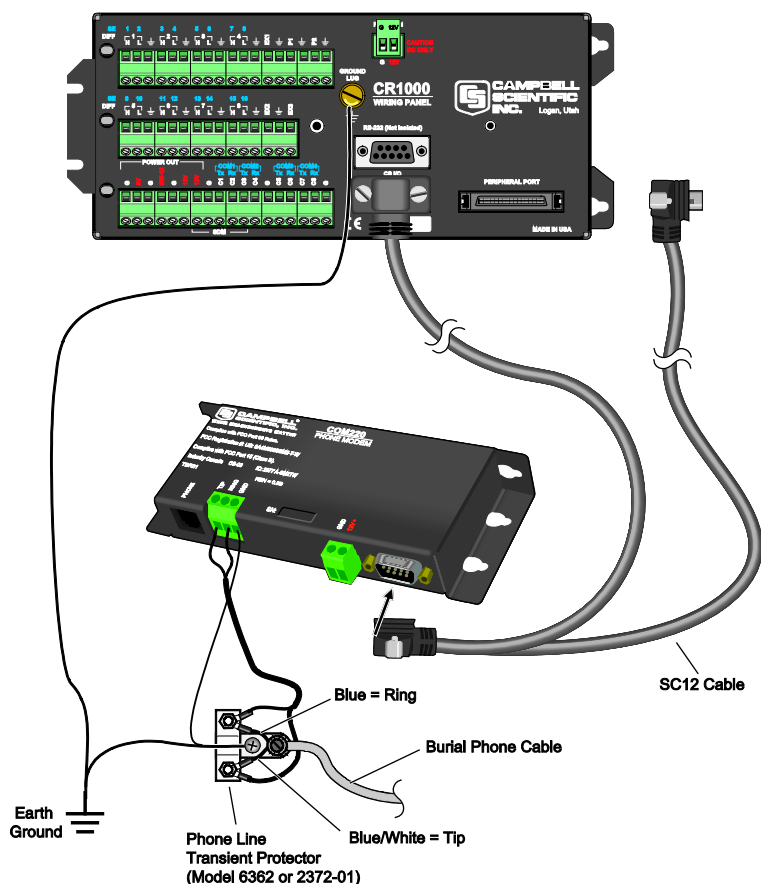

FIGURE 8-8. COM220 Modem with Surge Protector
Mount the modem to the enclosure backplate as shown in FIGURE 8-8.
3. The telephone company generally provides surge protection, and a patch cord that plugs into the RJ11C jack. If surge protection has not been provided, the model 6362 surge protector kit can be installed to the enclosure backplate. Connect the two terminals on the surge protector to the "tip" and "ring" terminals on the modem as shown in FIGURE 8-8.